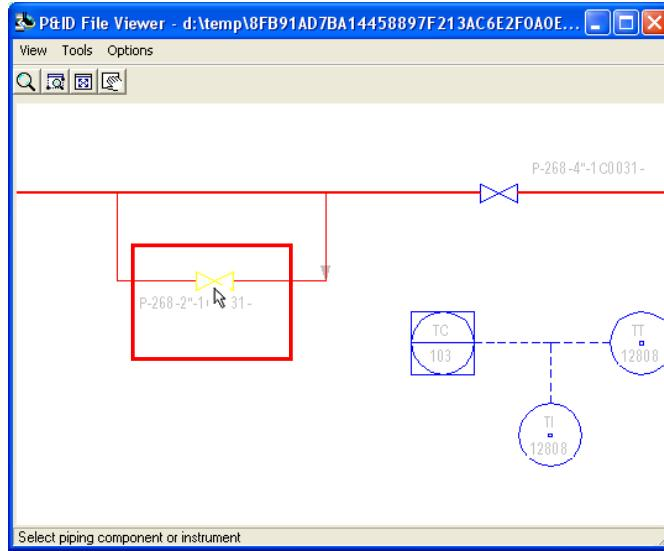

Figure 22: Gate valve on the Bypass Line in the P&ID File Viewer Window
11. Click on the active placement point of the pipe. The **P&ID File Viewer** window appears. In the **P&ID File Viewer** window, click the gate valve located in the bypass line, as shown in Figure 22.